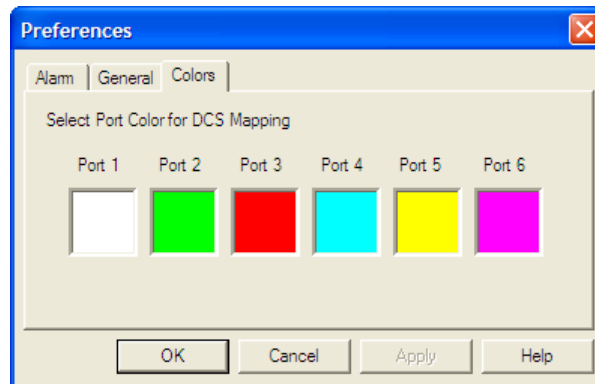

Figure 5-16. Preferences, Colors Tab
3. Click the **Colors** tab (Figure 5-16).
When you open a configuration file, the status of the IntraGuide session is OFFLINE. The light icon (or icons) in the left view of the IntraGuide window also indicate the status (Figure 5-16); the light icons do not appear in color when the status is OFFLINE.